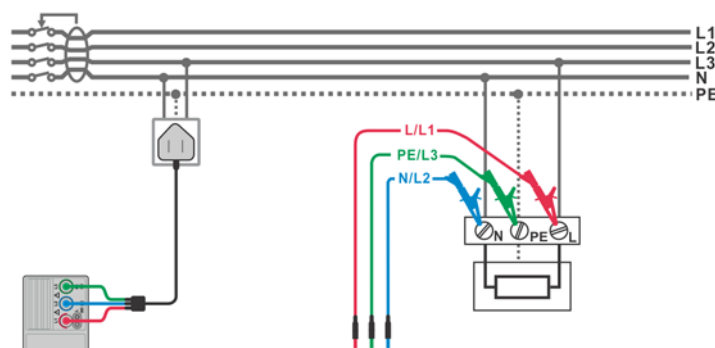

Figure 5.19: Connecting the plug test cable and test leads
- ❑ **Connect** the test leads to the wiring of the RCD to be tested (see *Figure 5.19*).
❑ Select the RCD function using the function selector Switch. ❑ Set sub-function to AUTO using UP / DOWN keys. ❑ Set test parameters (if necessary). ❑ Connect the test cable to the instrument. ❑ Connect the test leads to the wiring of the RCD to be tested (see Figure 5.19). ❑ Press the TEST key to perform the test.	Start of test